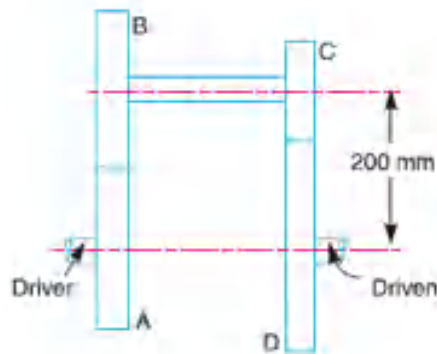

Fig. 4
11. a) The speed ratio of the reverted gear train, as shown in Fig. 4, is to be 12. The module [6M]